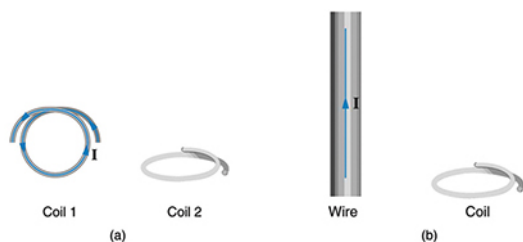

FIGURE 23.53 (a) The planes of the two coils are perpendicular. (b) The wire is perpendicular to the plane of the coil.
1. What is the value of the magnetic flux at coil 2 in Figure 23.53 due to coil 1?
2. What is the value of the magnetic flux through the coil in Figure 23.53(b) due to the wire?